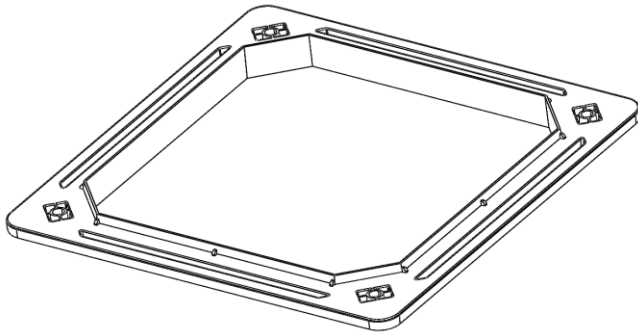

Figure 4 - The underside of the weather collar
- The other side, **the underside** will be sealed onto the roof. Figure 4